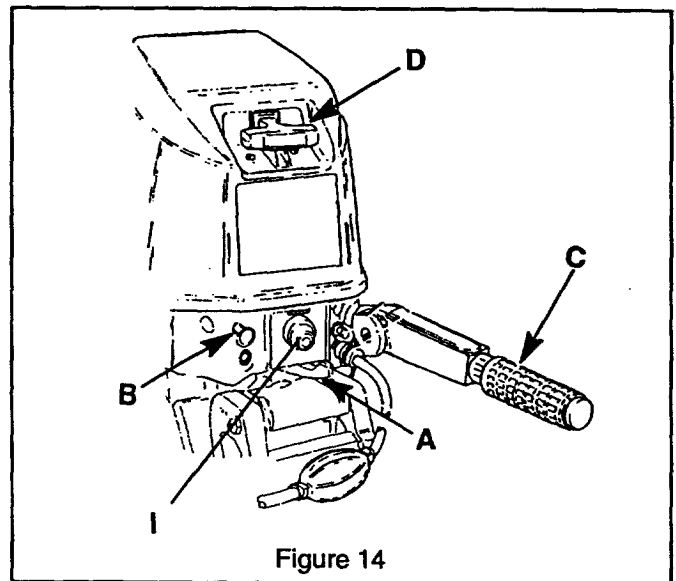

Figure 14
- Shift lever (A) (Figure 14) must be in "Neutral" position, when starting. The motor has a lock out device that prevents the motor from starting when in gear.
- Pull warm-up knob (B) (Figure 14) out.
- Push Primer (I) (Figure 14) one time. Do not push primer more than once.
- Turn twist-grip throttle (C) (Figure 14) to "Start" position on decal.
- Pull starter rope (D) (Figure 14) out until resistance is felt on rope. Give the rope a smooth, rapid, even pull. The engine should start on the second or third pull. However, when starting for the first time, several additional pulls on the starter may be required in order to initially prime the engine.